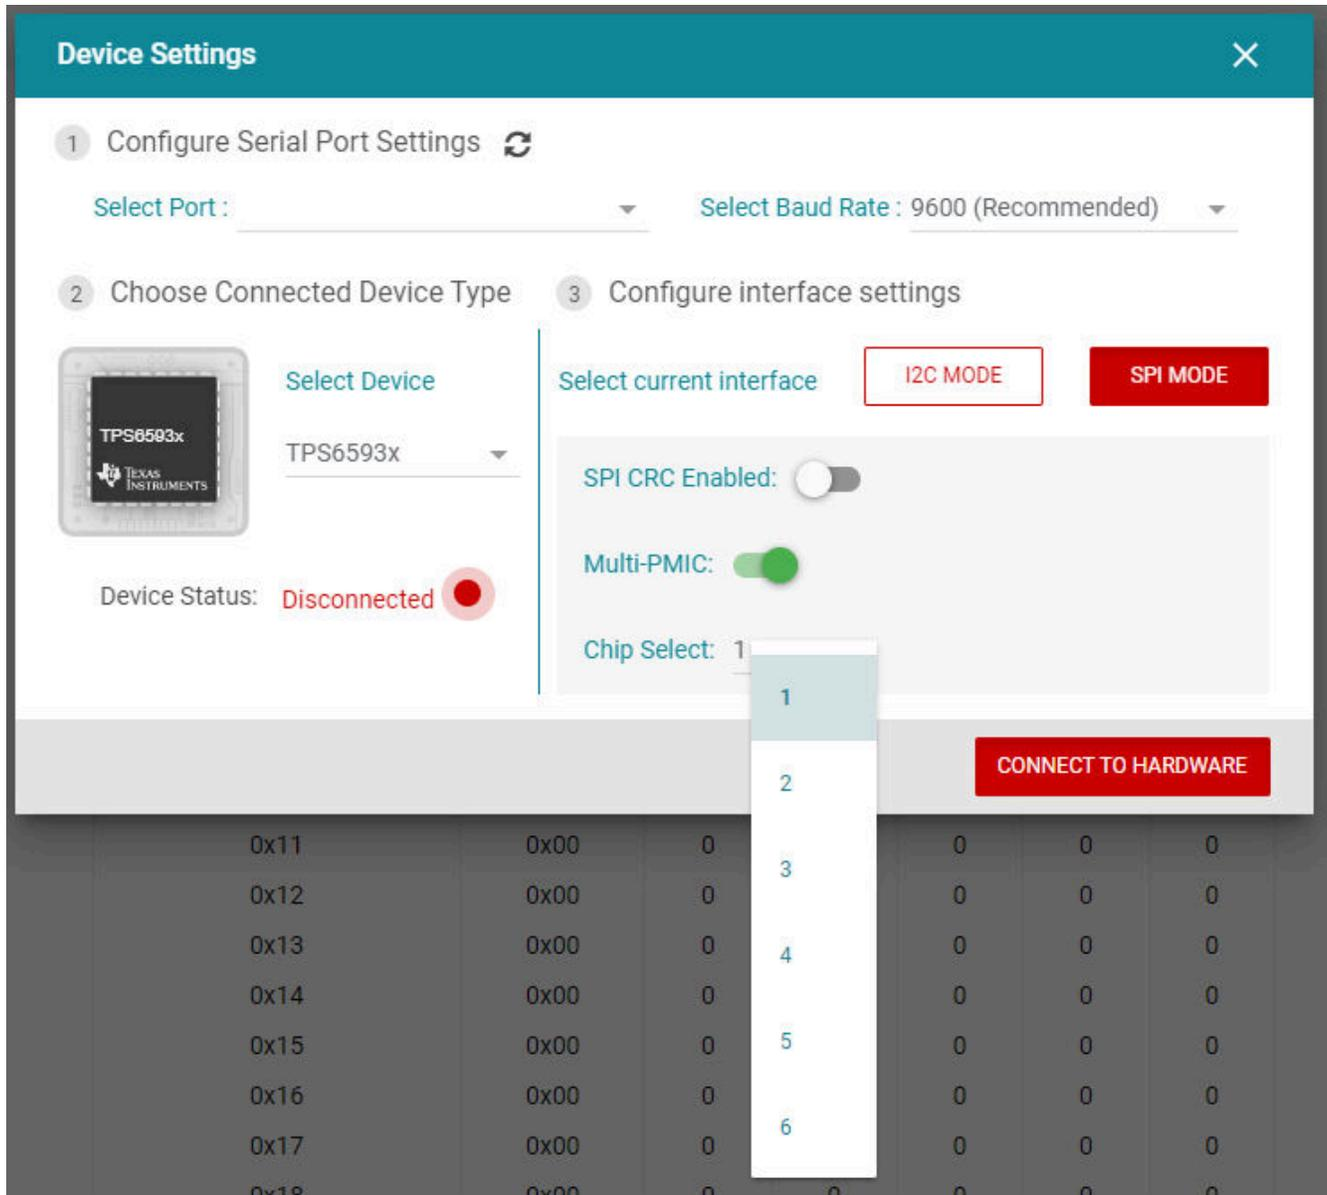

Figure 5-9. SPI Multi-PMIC Chip Select
The latest AEVM controller firmware will support multi-PMIC operation by providing individual chip select (CS) control. As shown in Figure 5-9, up to 6 PMICs can be cascaded in a primary/secondary configuration and communication with each device is controlled by the chip selection. Table 5-1 shows the relationship with the AEVM GPIO.